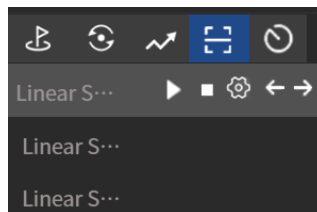

Figure 2-15 Linear Sweep Settings Interface
1. In the PTZ control panel, click  to enter the Linear Sweep settings interface. As shown in Figure 2-15.